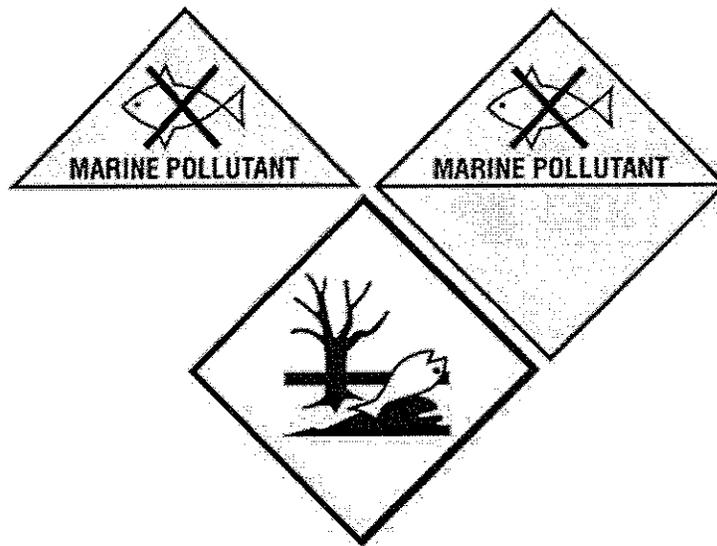

Figure 6. Marine Pollutant Mark
1. For a material described on the shipping papers as a marine pollutant and the shipment does not require a placard, make sure that the MARINE POLLUTANT mark appears on both sides and both ends of bulk packagings in one of the formats in Figure 6.